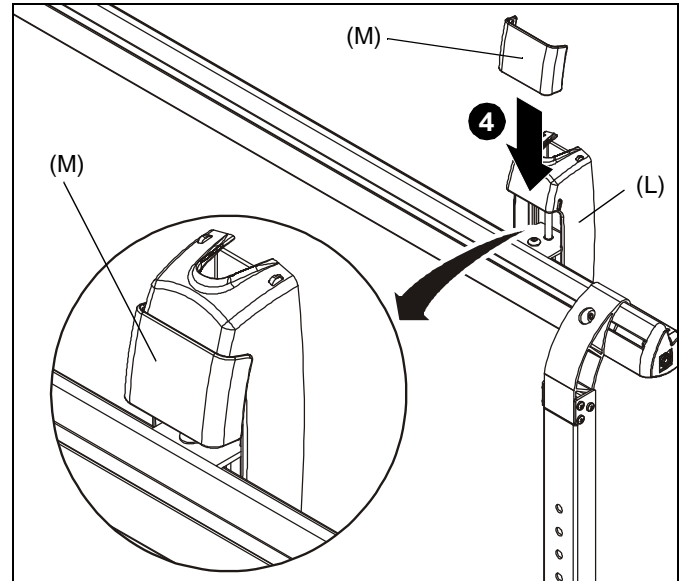

Figure 14
4. Slide the sliding cover (M) down over the wall bracket cover (L). (See Figure 14)